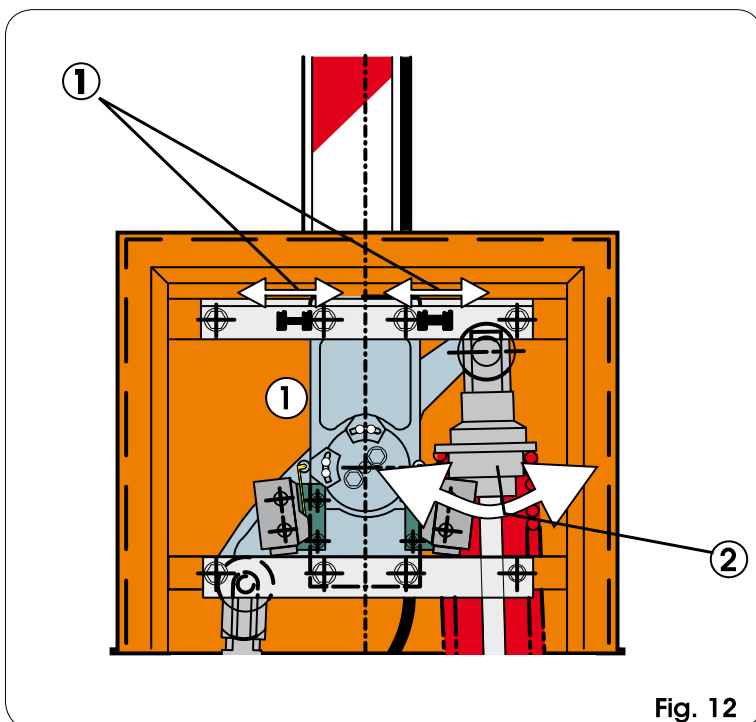

Fig. 12
- 2) If the barrier tends to close, turn the spring pre-loading ring-nut (Fig.12 ref.②) clockwise, if it tends to open, turn it anti-clockwise.
- 1) Adjust the cams of the travel limit device as shown in Fig. 12 ref. ① by loosening the two Allen screws. To increase the slow down angle, take the cam close to the relevant travel limit device. To reduce the slow down angle, take the cam far from the relevant travel limit device.